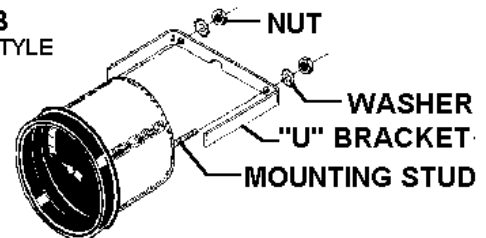
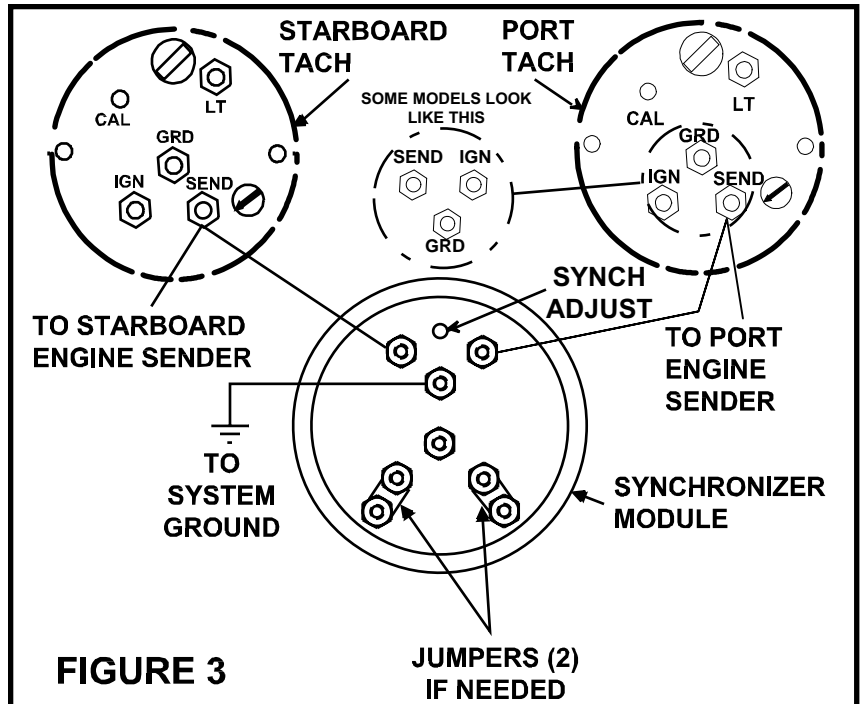

FIG.2A
FIGURE 3
1. Refer to Figures 2A through 2C and determine which style gauge you have. If you have the style shown in Fig. 2A, run a wire from the "G" terminal of Gauge to "IGN" terminal of ignition switch.
4. Refer to Figure 3. Wiring shown will cause Gauge pointer (for types shown in Figures 2A and 2B) to move in direction of faster engine. Type shown in Figure 2C will move towards slower engine. If desired, this may be changed by reversing connections at Module shown below and in Figure 3 A and B.
A. Run a wire from sender (S) terminal of Starboard Tachometer to Starboard engine tach terminal of Module.
B. Run a wire from sender (S) terminal of Port Tachometer to Port engine tach terminal of Module.
The preferred method is to use a Module for each gauge. The alternative is to use one Module, and wire the Gauges in parallel - that is, Ign to Ign, Port to Port, Stbd to Stbd. In this case, the Jumpers (Figure 3) **must** remain in place.
2. The Gauge and Module are calibrated for extreme accuracy in detecting differences in engine speeds. In some cases, it may be necessary to decrease the sensitivity of the unit. Removal of the Jumper tabs (See Figure 3) on the Module will decrease sensitivity as shown on the Gauge. This means a greater difference of engine speeds will be required for an equal deflection of the Gauge pointer. If your application uses two Gauges from one Module, the Jumpers **must not be removed.**
3. In extremely rare cases, it may be necessary to calibrate the unit. Make sure both engines are running at the same speed. Temporarily remove the dust cover and insert a small bladed screwdriver in the calibration hole in the Module marked "SYNCH ADJUST". (See Figure 3). Rotate the adjustment screw in very small increments to change Gauge pointer deflection from either side of center. Do Not over-torque the adjustment or you will damage the Module.